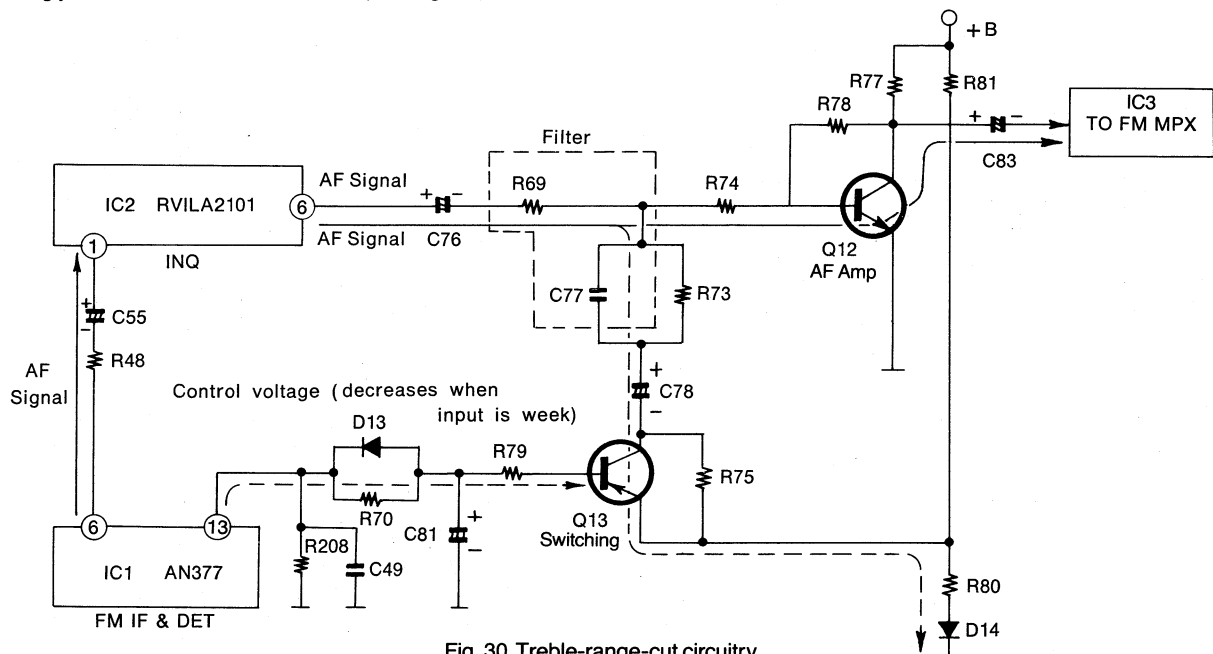

Fig. 30 Treble-range-cut circuitry
- When the input signal is less than about 30 dB, the control voltage [IC1, AN377 terminal ⑬] of the IF stage correspondingly decreases, and Q13 turns ON. (See Fig. 30.)